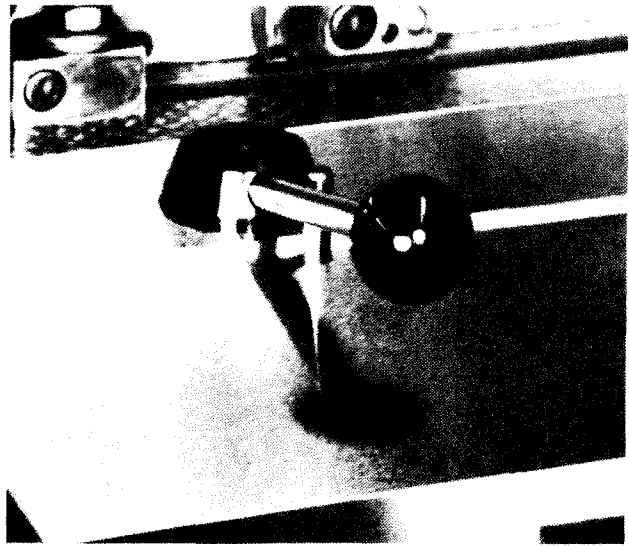

Figure 1.38 - Locking Lever in Released Position
3. Replace locking handle and hub "M", Figure 1.25, orientated as shown in Figure 1.38 .